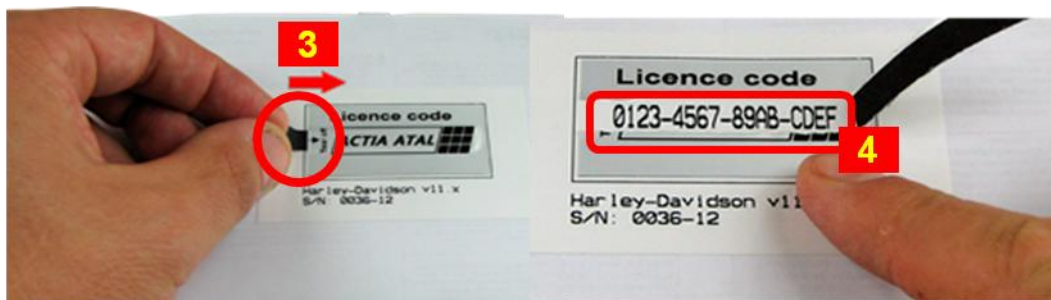

Fig. 9 –Licence code
After reading the „**Important notification**“ (see pos. 2, Fig. 8), removing the security seals (see pos. 1, Fig. 8) and opening the folded sheet of paper, the label with the „**Licence code**“ is shown that is located in one more security layer (see Fig. 9). By pulling the tag in the direction of the arrow (see pos. 3, Fig. 9) remove the last security layer under which the „**Licence code**“ itself is located (see pos. 4, Fig. 9). This code is to be inserted in the registration form (see chapter 7.3) into the field under pos. 3, Fig. 10.
- 3 - One or more licence code(s) – see chapter 7.2 (pos. 4, Fig. 9)